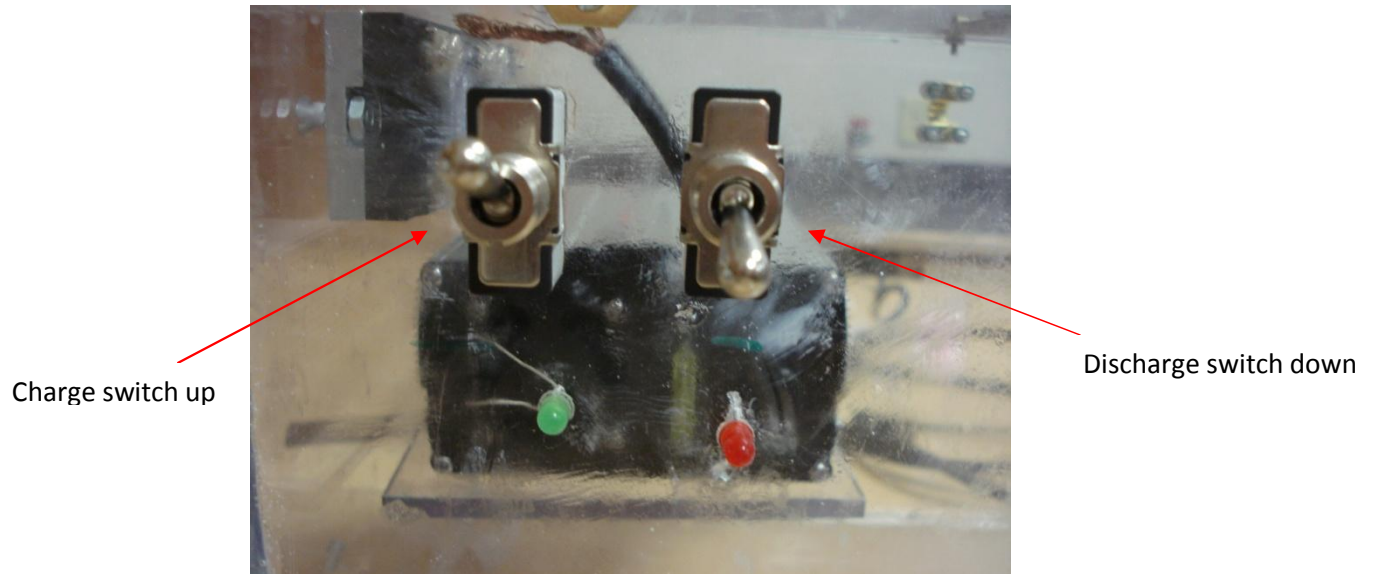

Figure 4: Charge and discharge switches
- Make sure the discharge switch is off (in the down position) and the charge switch is on (in the up position) as shown in figure 4. The switches are located on the outside of the power supply case.